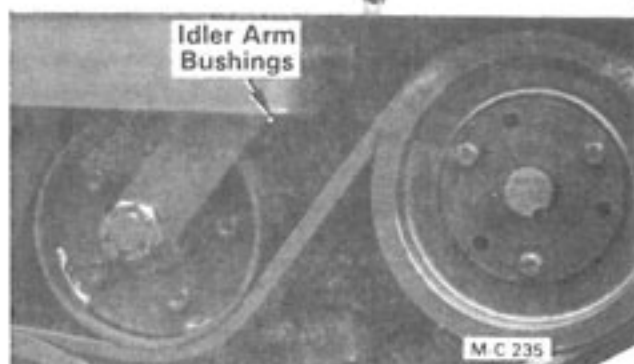

Figure 18
1. Idler arm bushings. One fitting behind the belt guard cover, see Figure 18.